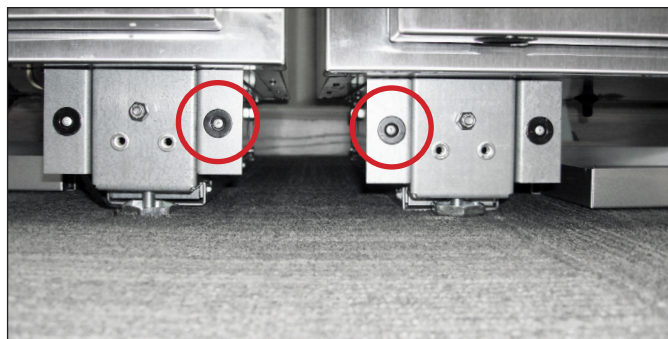

FIG. 11. Remove and discard the interior magnet brackets.
6. Remove the inner magnet brackets (see figs. 11 and 12). Then, thread and tighten the magnet bracket screws. Discard the magnet bracket.